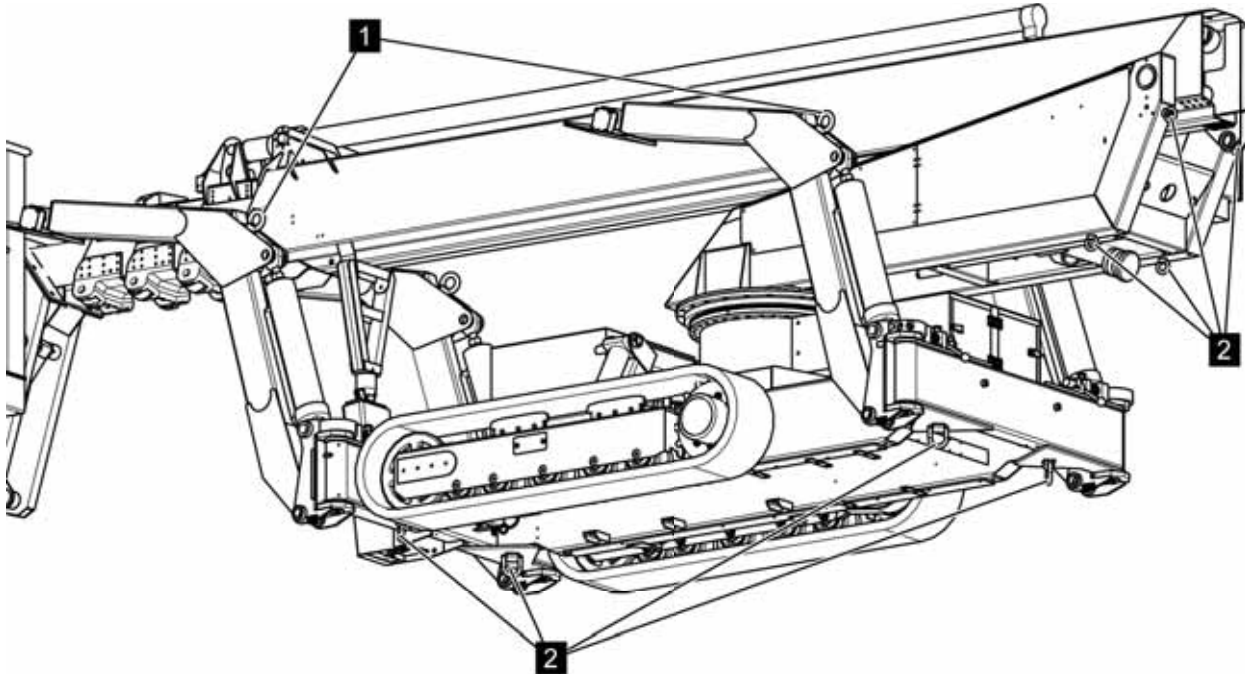

Fig. 36: Attachment points
The attachment points (Fig. 36/1) are marked with the Fig. 37 symbol.
- The aerial access platform must be anchored to the means of transport with safety belts on the lashing rings (Fig. 36/2) provided.